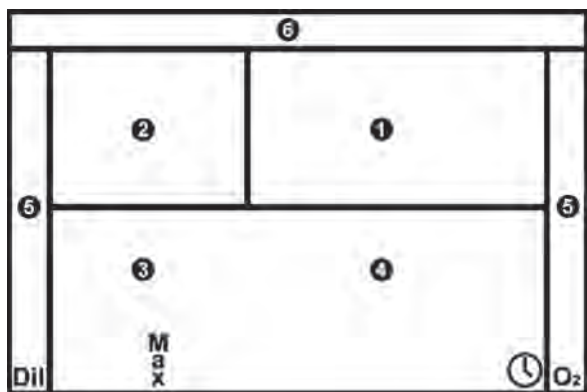

Figure 3-2. LCD display layout.
The next most important region is the upper-left part of the screen, where the current PO_2 value is displayed (2 in figure 3-2). The lower half of the screen includes basic information about depth (on the left side, 3), and time (on the right side, 4). The left and right edges of the screen (5) include bar graphs that represent the current capacity of the diluent (left side) and oxygen (right side) cylinders, as a percentage of total cylinder capacity. Finally, the top edge of the screen (6) includes a bar graph that represents the current ascent rate of the diver. When the Poseidon SE7EN electronics are started (via the wet switch, or when the battery is inserted into the unit), the LCD screen momentarily shows all elements of the display, as illustrated below. Each of these elements is described in detail below.